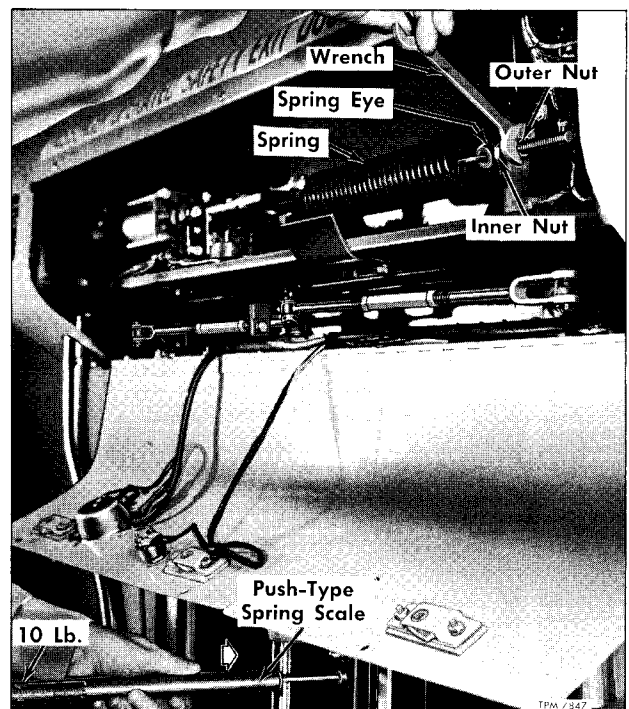

Figure 10—Adjusting Push Type Rear Door Return Spring Tension
6. If linkage adjustment is satisfactory, connect door return spring (8). Adjust return spring tension at threaded eye-end (11) of spring. Adjust spring so that a tension checking scale registers 10 lbs. on door inner edge to open door (fig. 10).
7. Retain doors closed, then check door lock cam (28) to lock cam lever catch. NOTE: To assure complete locking of door, a tight locking adjustment is not recommended. A 1/32" clearance "B" is recommended between lock lever and cam notch. Adjustment is made by slight adjustment of one or both connecting rods.
8. Correct clearance "A" between lock solenoid cap (24) and lock cam lever adjustment screw (25) should measure 1/8 inch with doors in locked-closed position. If necessary to change adjustment,